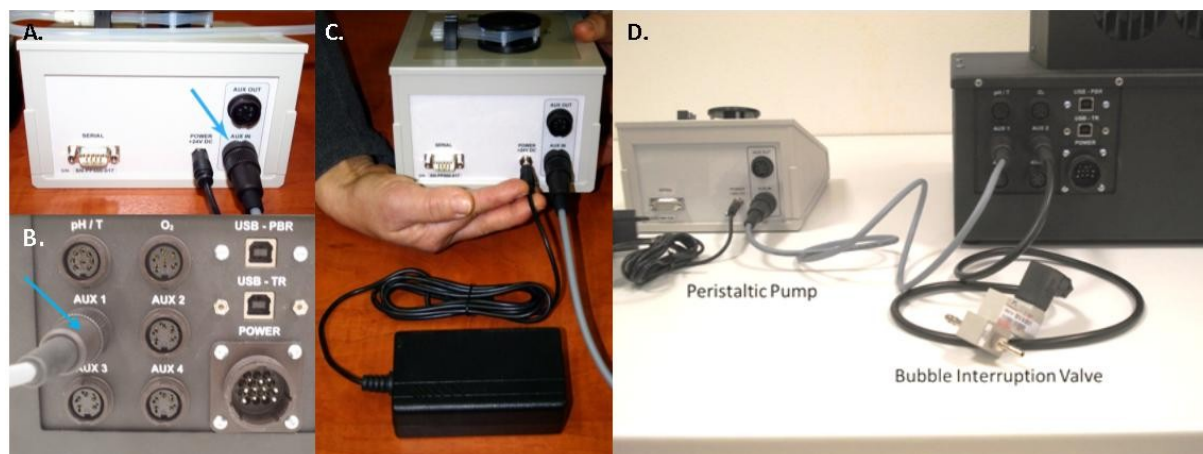

Fig. 44: Connection of peristaltic pump with PBR FMT150.2.
- Install the wiring connections for the peristaltic pump as shown in Fig. 44.